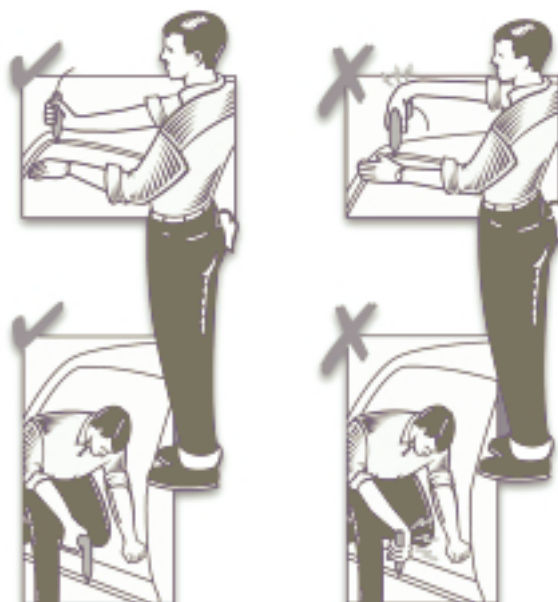

Fig 4.
- by selection of correct tool (pistol or straight case) Fig 4.